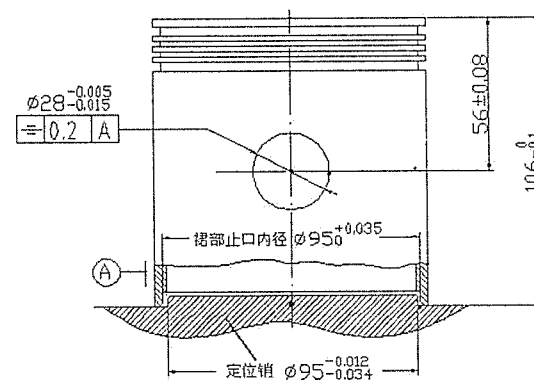

Figure 2
(3) 存在定位误差, 支承板3个支承钉4点都可限制。
7. Figure 2 is a machining and positioning diagram of piston and pin hole. The piston has a full height of $106_{-0.1}^0$ mm, pin hole position of 56 ± 0.08 mm and symmetry requirement of 0.2 mm. Please analyze (16 points):